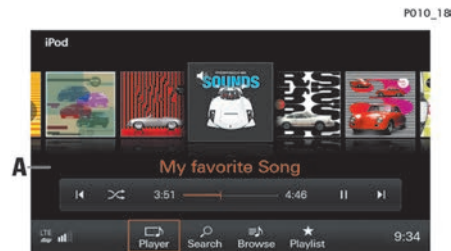

Fig. 129: Playing music
2. In coverflow view **A** (Fig. 129), swipe left or right until the desired album is displayed enlarged in the centre.